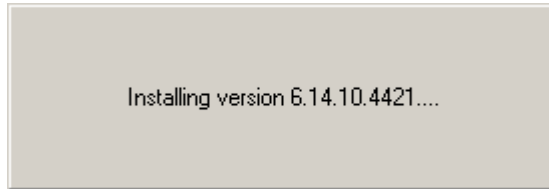

Figure 7-14: Intel® Graphics Media Accelerator Driver Installing Notice
Step 12: Read the license agreement. To accept the terms and conditions stipulated in the license agreement shown, click **YES** and the installation notice appears (Figure 7-14) as the driver is installed.